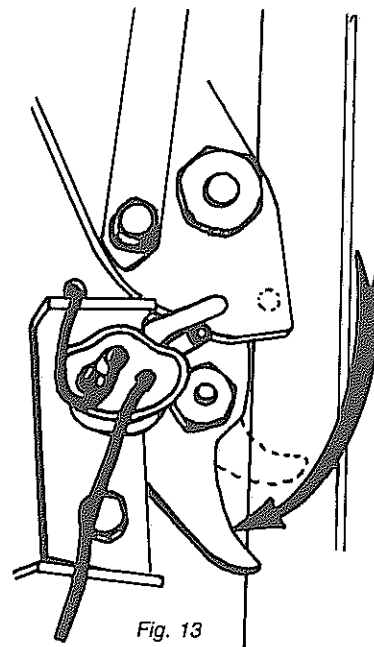

Fig. 13
6. Tie each twine to the cross member located above the twine tensioners on the bottom of the chamber, (H). Each twine should be individually tied directly above the twine tensioner through which it is threaded.
7.. Once the needles have cycled and the knotters are loaded with twine, remove the twine ends from the cross member, (H); then, manually pull the knot sensor fingers, located on top of the chamber underneath the knotters, see **Fig. 13**.
In the event of a mistie, the appropriate indicator will remain lit. To turn off the indicator light, manually pull the knot sensor finger rearward, see **Fig. 13**.